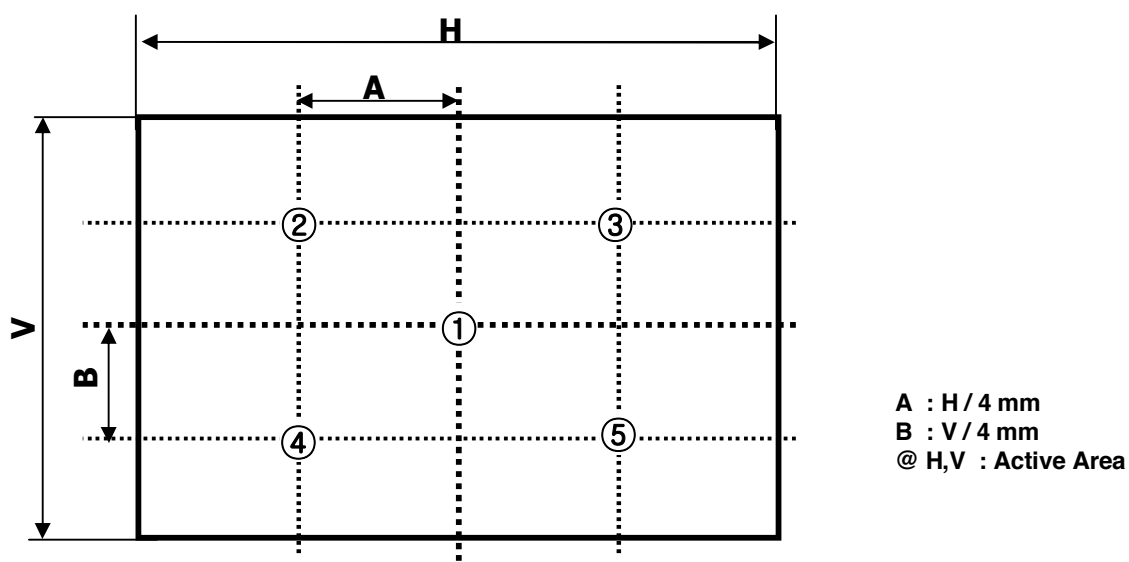

FIG. 2 5 Points for Luminance Measure
2. Surface luminance are determined after the unit has been 'ON' and 1Hour after lighting the backlight in a dark environment at $25 \pm 2^\circ\text{C}$. Surface luminance is the luminance value at center 1-point across the LCD surface 50cm from the surface with all pixels displaying white. For more information see the FIG. 2.
For more information, see the FIG. 2.